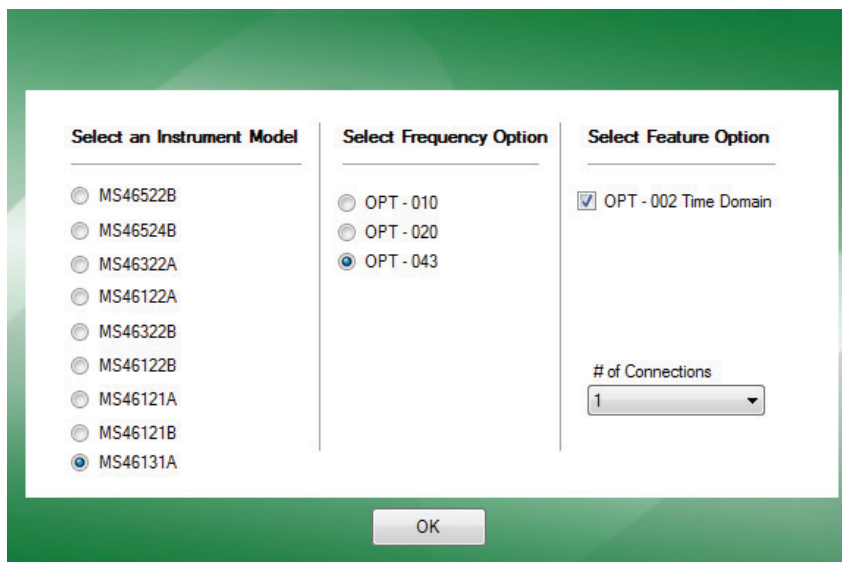

Figure 3-8. Simulator Select Instrument
3. Once Simulation Mode is selected, the default menu screen appears, see Figure 3-8.